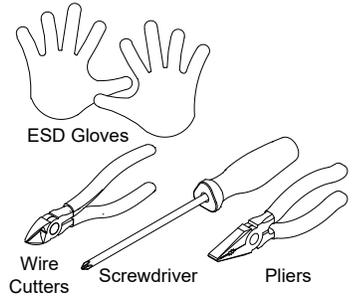

Fig. 2. Tools required (not supplied).
3. Surface mounted fixture has special support mechanism that allows to raise and lower fixture with aircraft support cables. Fixture has at least (3) support brackets. Each bracket has aircraft cable loop within housing reflector. Lay-in lenses need to be shifted one segment on the top of another to reach loops (see Fig. 2).